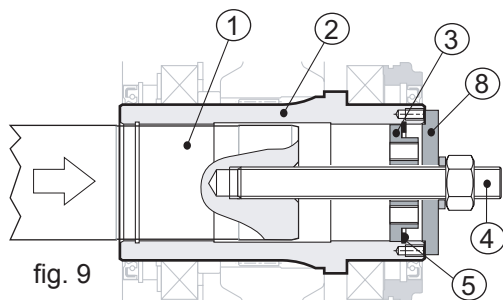

fig. 9
Now insert the backplate (pos. 3) then the inner retaining ring (pos. 5) into their relative seats and tighten the threaded bar to bring the two shafts tight against each other (see fig.9).